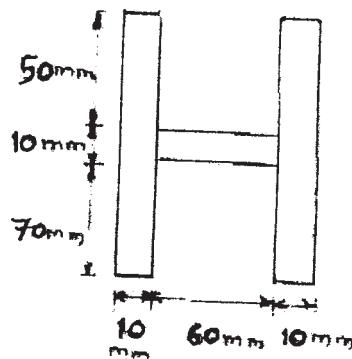

Fig.4.
**Q5)** Find centrode. And Calculate moment of inertia for a given section Fig.4 about its centroidal X-X & Y-Y axis. [15]